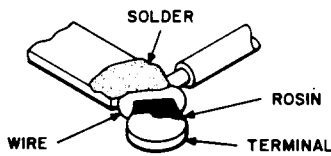

Fig. 9—Example of Improperly Soldered Connections
**7.05** Figure 9 illustrates an improperly soldered connection where the solder has sweated to the terminal only, while between the solder and the wire there is a layer of rosin which insulates the solder from the wire. A connection of this kind is due to one of the following causes: